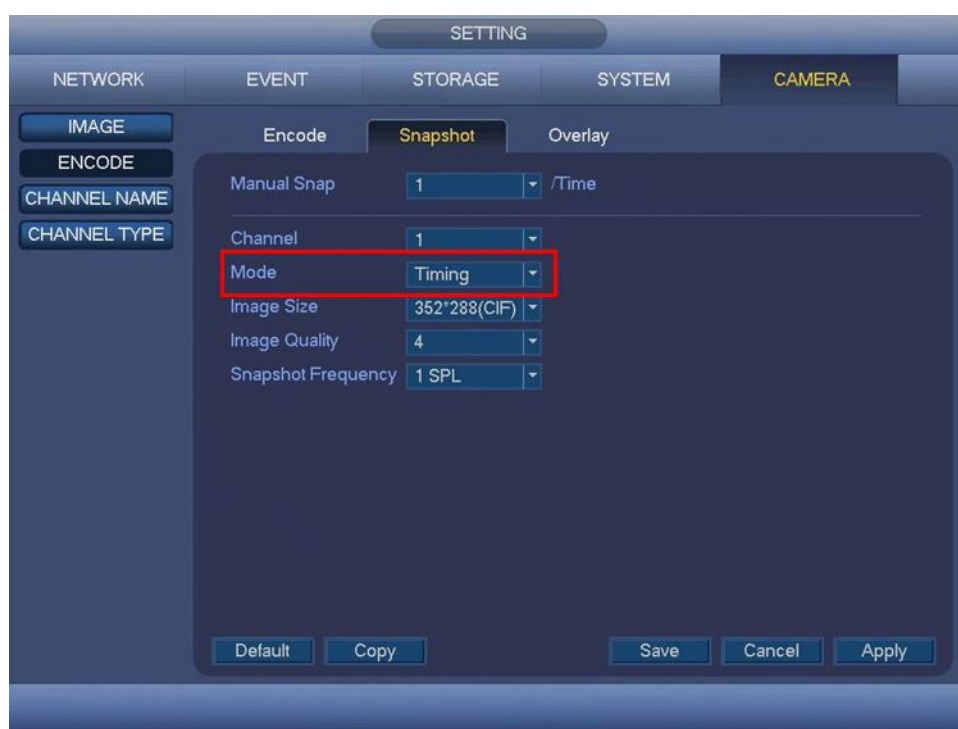

Figure 2-30
- In main menu, from SETTING -> CAMERA -> ENCODE -> Snapshot interface, here you can input snapshot mode as timing, size, quality and frequency. See Figure 2-30.